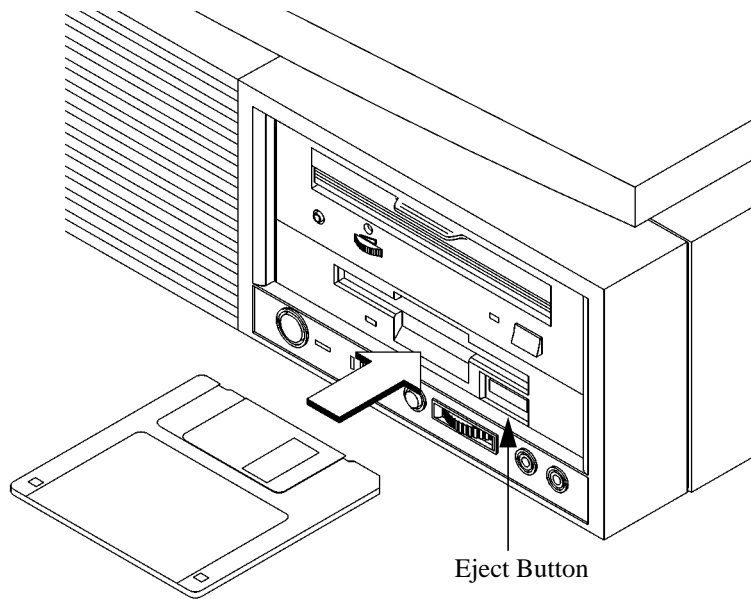

Figure 19
- 1 Insert the diskette into the drive, as shown in Figure 19.
- 3 To remove the diskette, push the eject button (Figure 19), then take out the diskette.